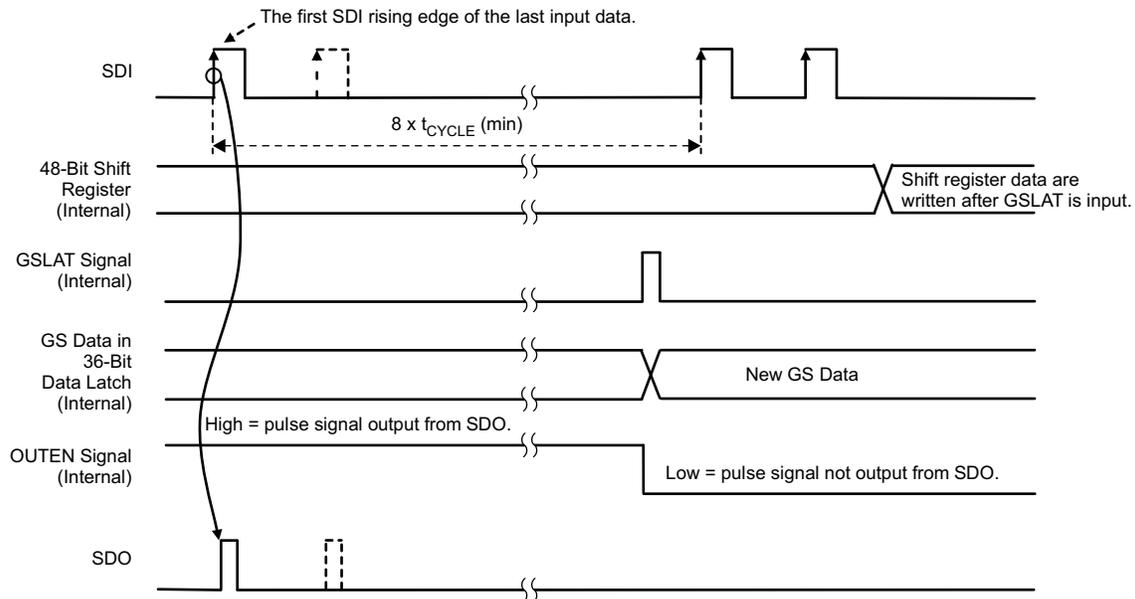

Figure 17. GS Data Latch Sequence (GSLAT)
A GS data latch (GSLAT) sequence must be input after the 48-bit data for all cascaded devices are written. When SDI is held low for the data latch hold time ( $t_{H1}$ ), the 48-bit shift register data in all devices are copied to the GS data latch in each device. Furthermore, PWM control starts with the new GS data at the same time. Figure 17 shows the GSLAT timing.
7. The number of total bits is  $48 \times N$ . After all data are written, execute a GSLAT sequence as described in Figure 17 in order to copy the 36-bit LSBs in the 48-bit shift register to the 36-bit GS data latch in each device; PWM control starts with the written GS data at the same time.